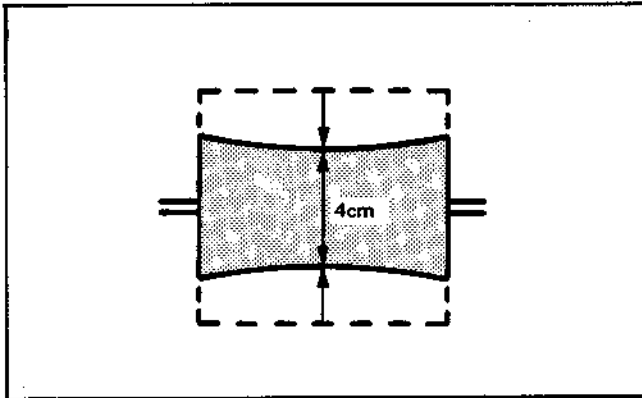
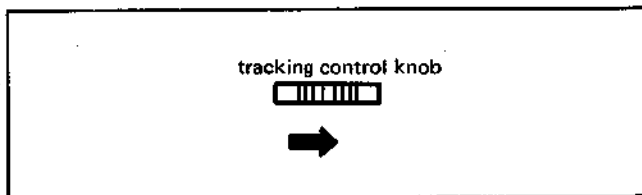

Fig. 1-5 2/3 Right Turn Waveform
Fig. 1-6 Right Turn
- 7) Turn the tracking control knob to the right (Fig. 1-6), as seen from the front, so that the center of the RF output waveform on the oscilloscope is 4cm. (Fig. 1-5) Normally, "2/3 right turn = 4cm waveform". Tape path adjustment is performed in this state. The following adjustments are all performed at 2/3 right turn waveform unless otherwise indicated.